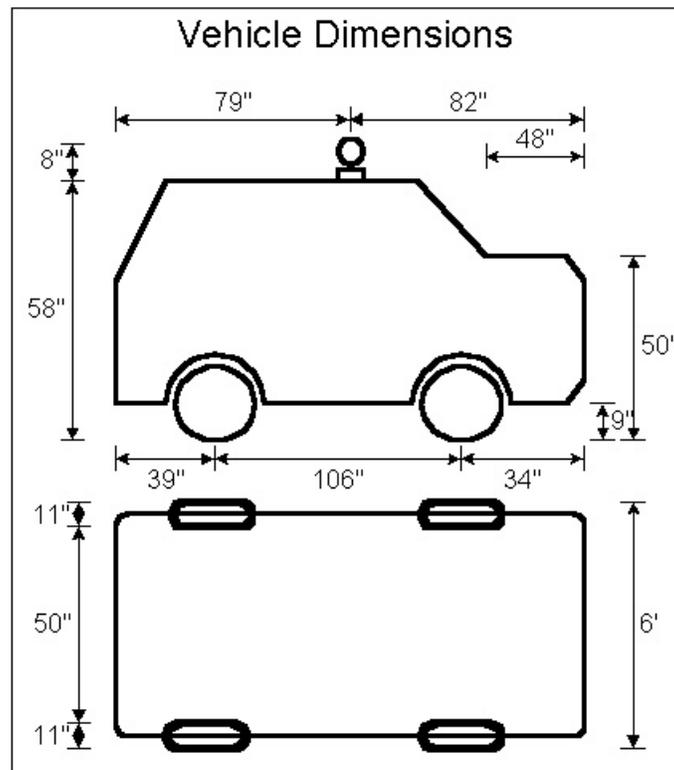

Figure 1: AR Challenge Vehicle
The Axion, LLC Challenge Vehicle (AR Challenge Vehicle) platform is a four door 1994 Jeep Grand Cherokee Limited 4x4. It is a standard four-wheel-drive production vehicle (see Figures 1) with enhancements for off-road activities. The AR Challenge Vehicle will contact the ground with four (4) mud terrain tires with a heavy duty inner tube filled with standard tire sealant for puncture fighting. The tires are B.F. Goodrich Mud/Terrain T/A® tires (stock # 417-972) with the following specifications: